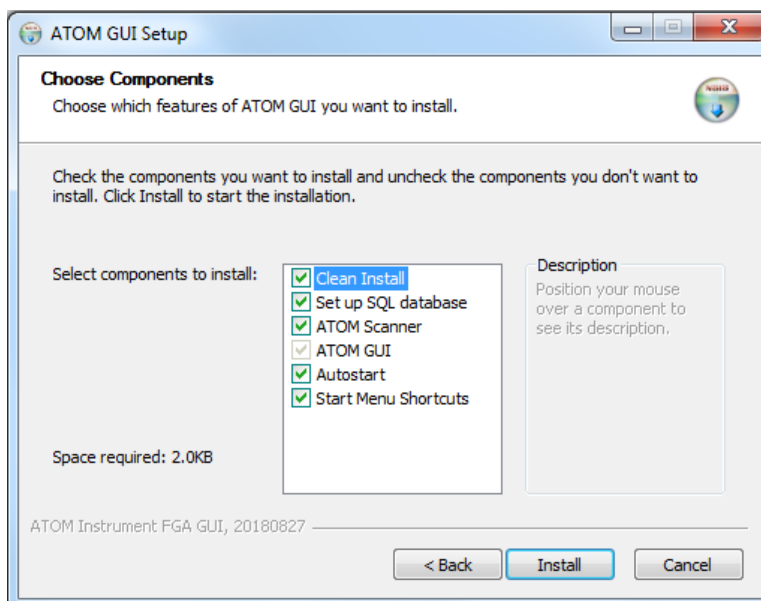

Figure 3.12
3. Leave all options “checked”, and click **Install** (Figure 3.12)